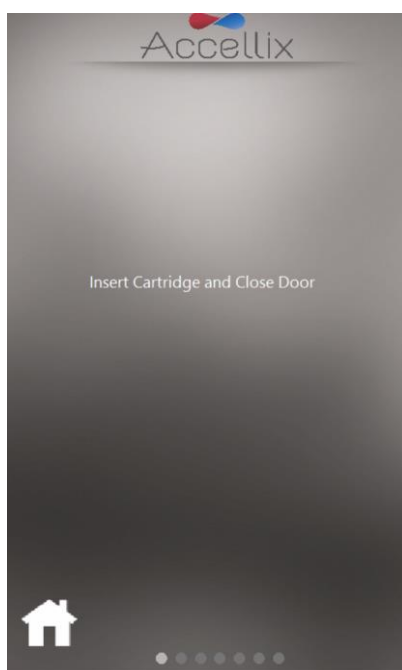

Figure 34: Insert Cartridge screen
4. When prompted by the instrument (Figure 34), open the door by pressing down on the front right-hand indent corner of the door and releasing. Next, insert the cartridge into the instrument by pushing it down using the top handle. Once the cartridge is inserted, push the handle on the right-hand side a bit more until a click is heard and felt, ensuring that the cartridge has been inserted fully into the instrument Cartridge Handling Unit (CHU).